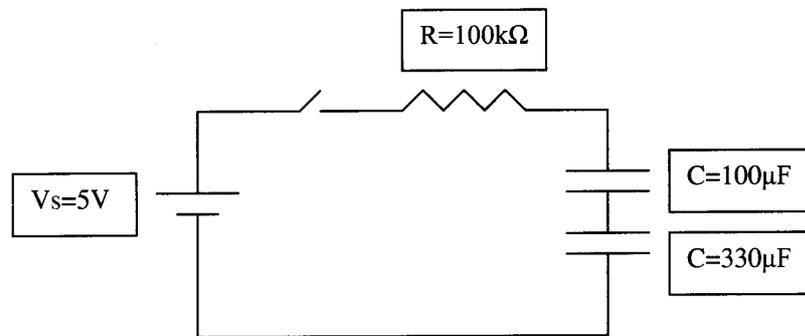

Figure 15.3:
- Return to the original $100k\Omega$ resistor, but use the $100\mu F$ capacitor in series with the $330\mu F$ capacitor (Figure 15.3).